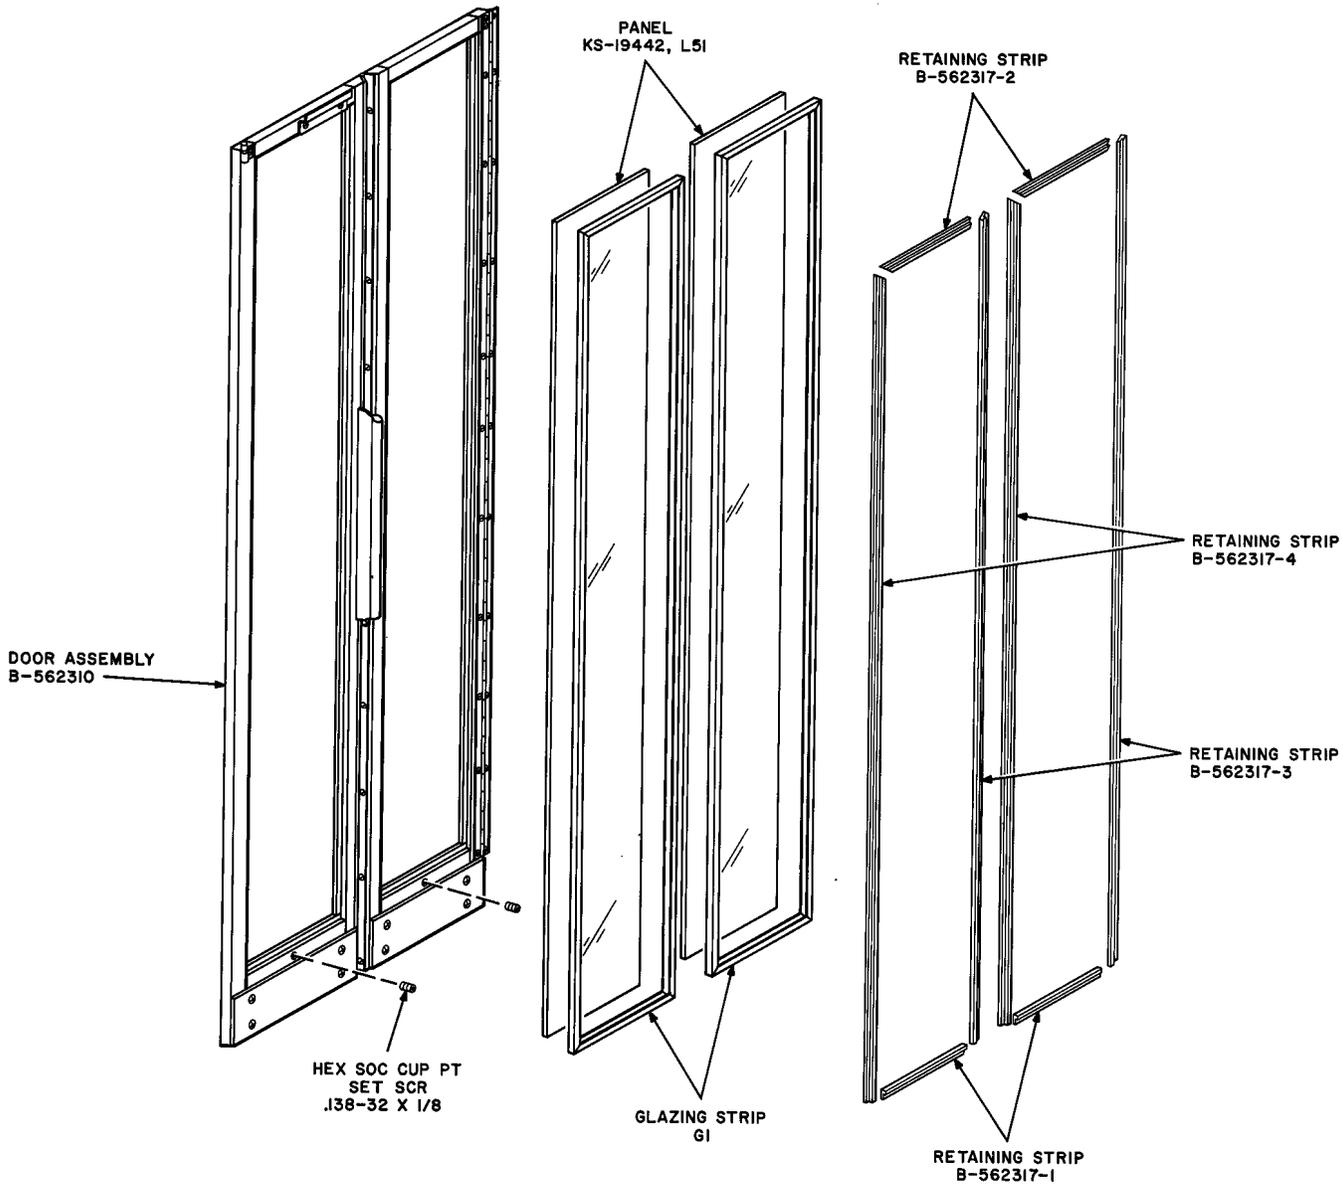

Fig. 22 — Installation of Glass Panels in Door
(1) Apply glazing strips to glass panels as follows and install the panels in positions indicated. See Fig. 22 for installing door panels. Side and rear panels are similarly installed.
(2) Insert B-562317-2 retaining strips along the top of door panels (Fig. 22).
(3) Insert B-562317-4 retaining strips along the left edges of door panels as viewed from the rear.
(4) Insert B-562317-3 retaining strips along the right edges of door panels as viewed from the rear.
(5) Insert B-562317-1 retaining strips along the bottom of door panels and secure with two .138-32 by 1/8 hex socket cup point setscrews.
(6) Install retaining strips as follows:
(1) Apply glazing strips to glass panels as follows and install panels in positions indicated. See Fig. 22 for installing door panels. Rear panels are similarly installed.
- (2) Insert B-562317-2 retaining strips along the top of door panels (Fig. 22).
- (3) Insert B-562317-4 retaining strips along the left edges of door panels as viewed from the rear.
- (4) Insert B-562317-3 retaining strips along the right edges of door panels as viewed from the rear.
- (5) Insert B-562317-1 retaining strips along the bottom of door panels and secure with two .138-32 by 1/8 hex socket cup point setscrews.
- (6) Install retaining strips as follows: